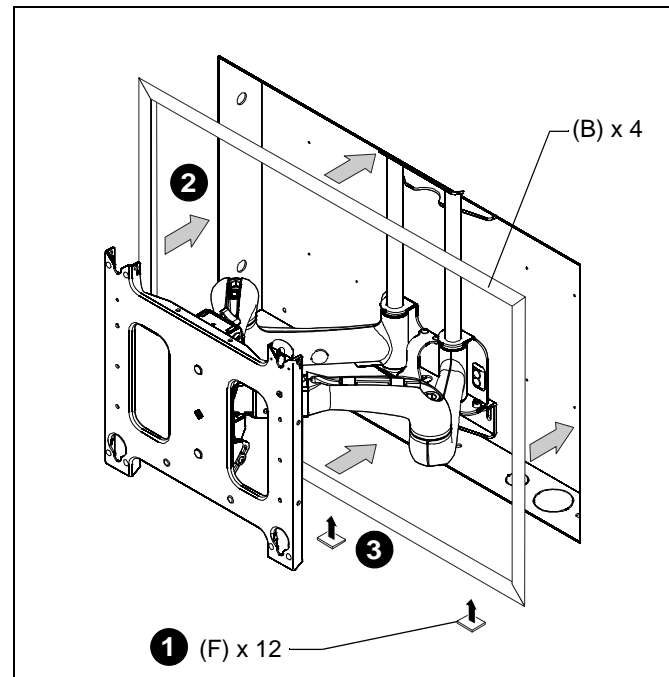

Figure 4
1. Remove paper covering adhesive and affix three tape squares (F) to inside lower flange of each trim piece (B). (See Figure 4)
2. Orient trim pieces (B) as shown in figure below. (See Figure 4)
3. Remove paper covering adhesive back from tape squares (F) on trim and press trim (B) against inner wall of box. (See Figure 4)